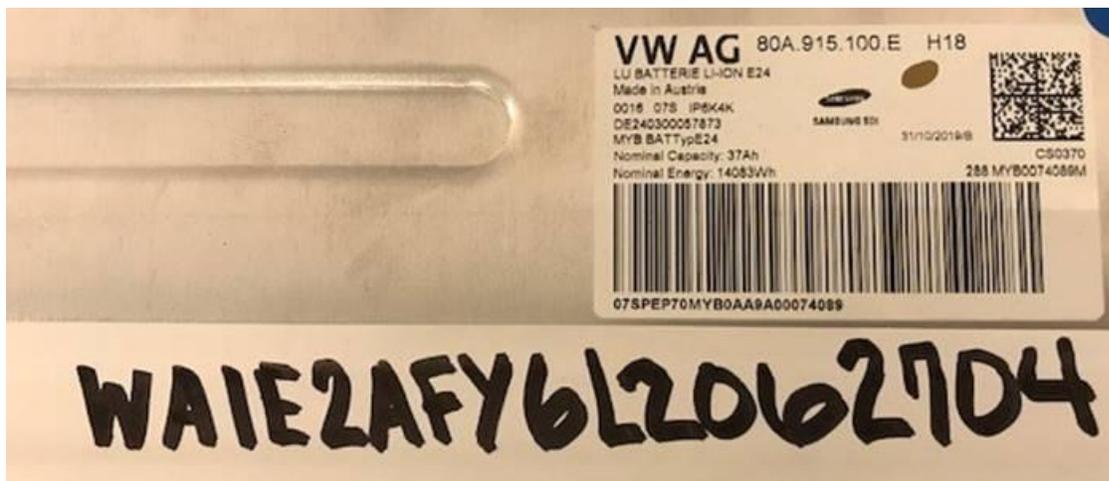

Figure 1. Example for TAC documentation submission.
3. For the defective HV battery: write the VIN close to the battery label (Figure 1). Then take a picture and upload it to TAC.